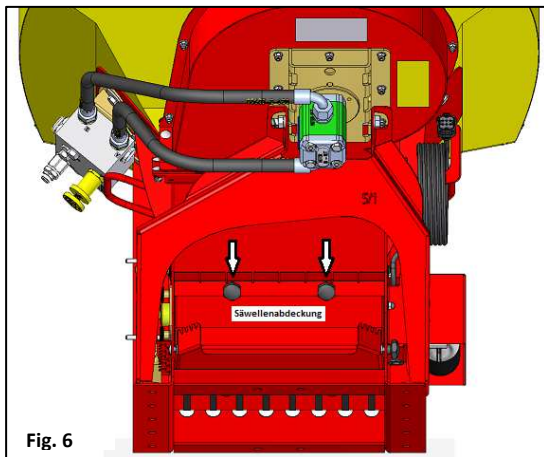
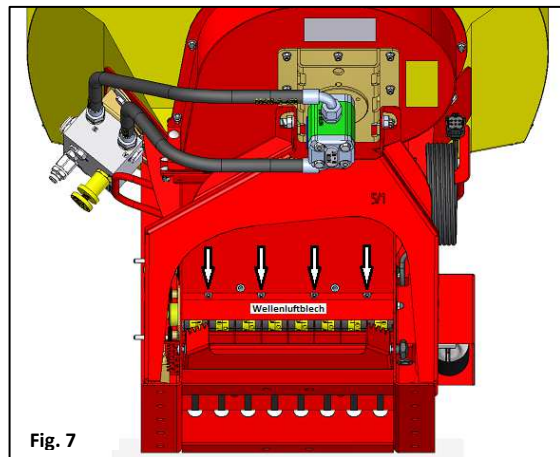

Fig. 6
Fig. 7
- Remove the sowing shaft cover (Fig. 6) by undoing the star knobs. Take out the shaft air sheet (Fig. 7) by removing the four bolts.